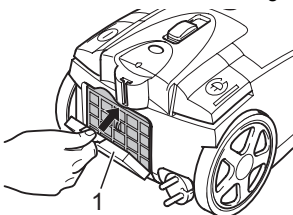

Fig. 27
5. Then put the exhaust filter cover back again. Hook it in first at the bottom (Fig. 27/1) and then press it up and forwards until it clicks into place audibly and noticeably.